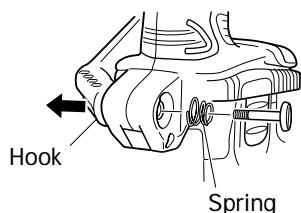

Fig. 7
- Remove the hook and spring (Fig. 7).